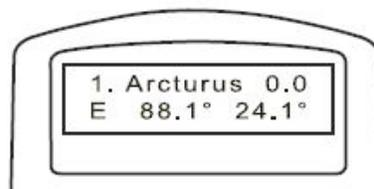

Fig. 40
4. The hand control will generate a list of stars located within this region that are brighter than magnitude 1.5, starting from the brightest to the dimmest. Stars and planets below 10 degrees or higher than 75 degrees above the horizon will be filtered out. The name and magnitude of the alignment star will be displayed on the first line of the LCD. The approximate position will be prompted on the second line. For example, if Arcturus is displayed as an alignment star, and its location (88.1° east and 24.1° above the horizon) will appear as shown in **Fig. 40** Press **ENTER** to continue.